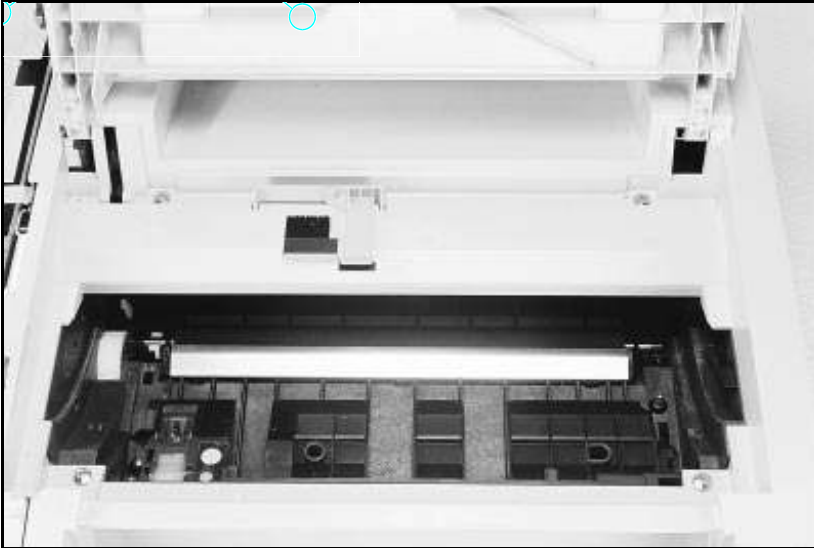

Figure 18 Removing the Top Cover Screws
2. Remove the (4) self-tapping printer cover screws (Figure 18).